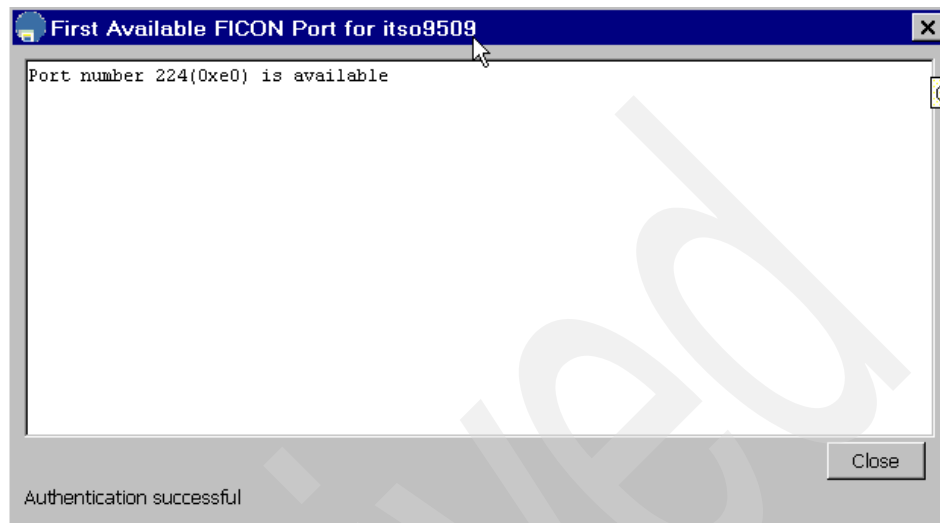

Figure 39 First available FICON port
6. This opens the window shown in Figure 39. We enter the value 0xe0 into the field and repeat the process for the next switch.